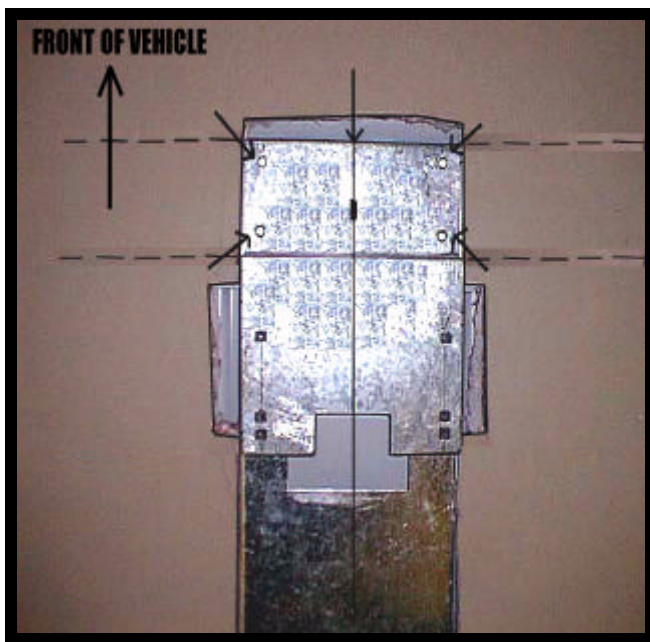

FIGURE 5
9. Install front mounting bracket (Item 7 pg. 2) over rear mounting bracket and align slot with centerline scribe and edge of bracket with front O.E. brace. Secure using (4) four # 10x 1/2" screws. (Item 1 pg.2) See Figure 5.